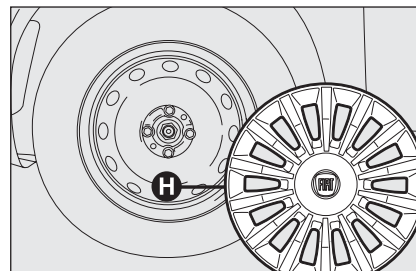

fig. 4
- remove wheel hubcap **H-fig. 4** (versions with steel rims) or remove the hub cap (versions with alloy rims);